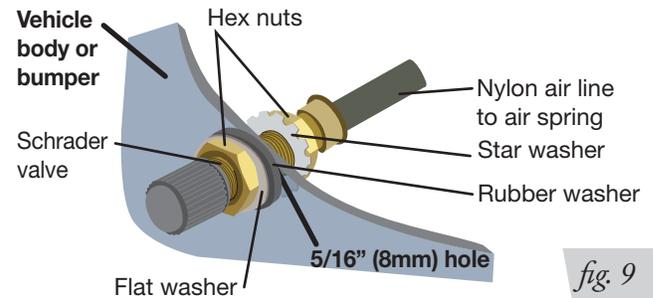

fig. 9
3. Install the Schrader valve in the chosen location (Fig. 9).